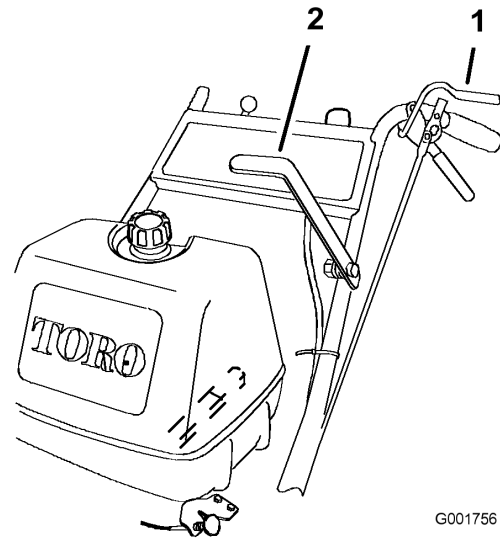

Figure 8
1. Squeeze the operator presence control (OPC) levers against the handles (Figure 8).
2. Push the blade control (PTO) lever firmly forward until it latches over the center (Figure 8).
To disengage the blades, pull the blade control lever rearward all the way (Figure 8). The engine will kill when the OPC levers are released with the blade control lever engaged.